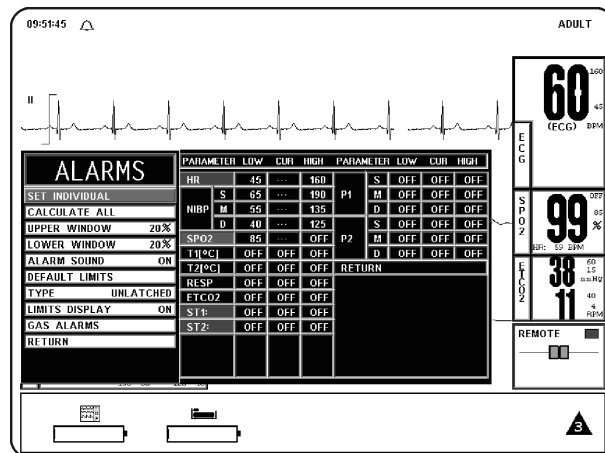

Figure 6-1. The ALARMS Menu
6.3 Alarm Setup. Pressing the **ALARMS SCREEN** Menu-Select Key while in the normal monitoring mode (Normal Screen displayed) with no icons highlighted will bring up the **ALARMS** Menu (See Figure 6-1).